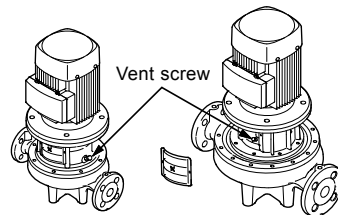

Fig. 15 Position of vent screw
1. Close the isolating valve on the outlet side and loosen the vent screw in the motor stool. See fig. 15.
2. Loosen the vent screw. See fig. 15.
3. Vent the pump during starting by loosening the vent screw in the motor stool until a steady stream of liquid runs out of the vent hole. See fig. 15.